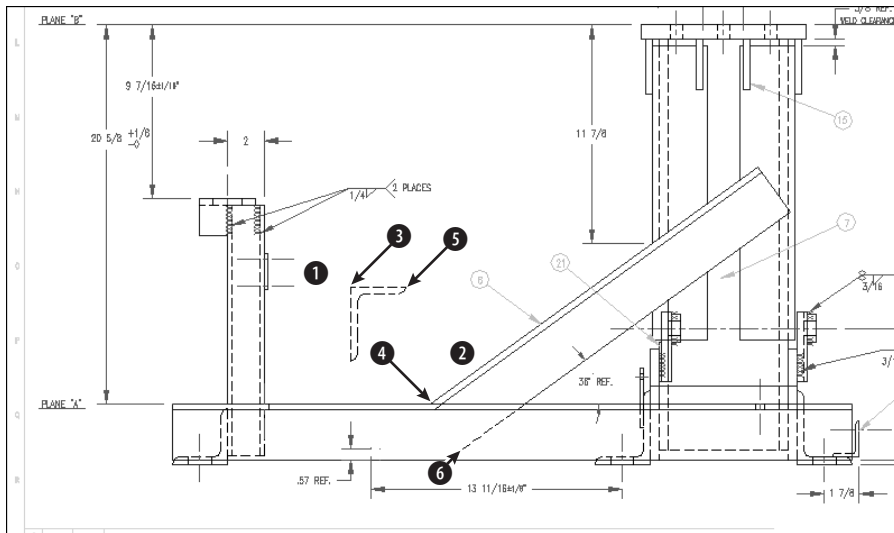

Figure 10-12: A base assembly for a commercial washing machine
2. Save the file as *ab10-04.dwg* in your AutoCAD Bible folder. It looks like Figure 10-12.
Specify first source point: *Pick the endpoint at ③ in Figure 10-12.*